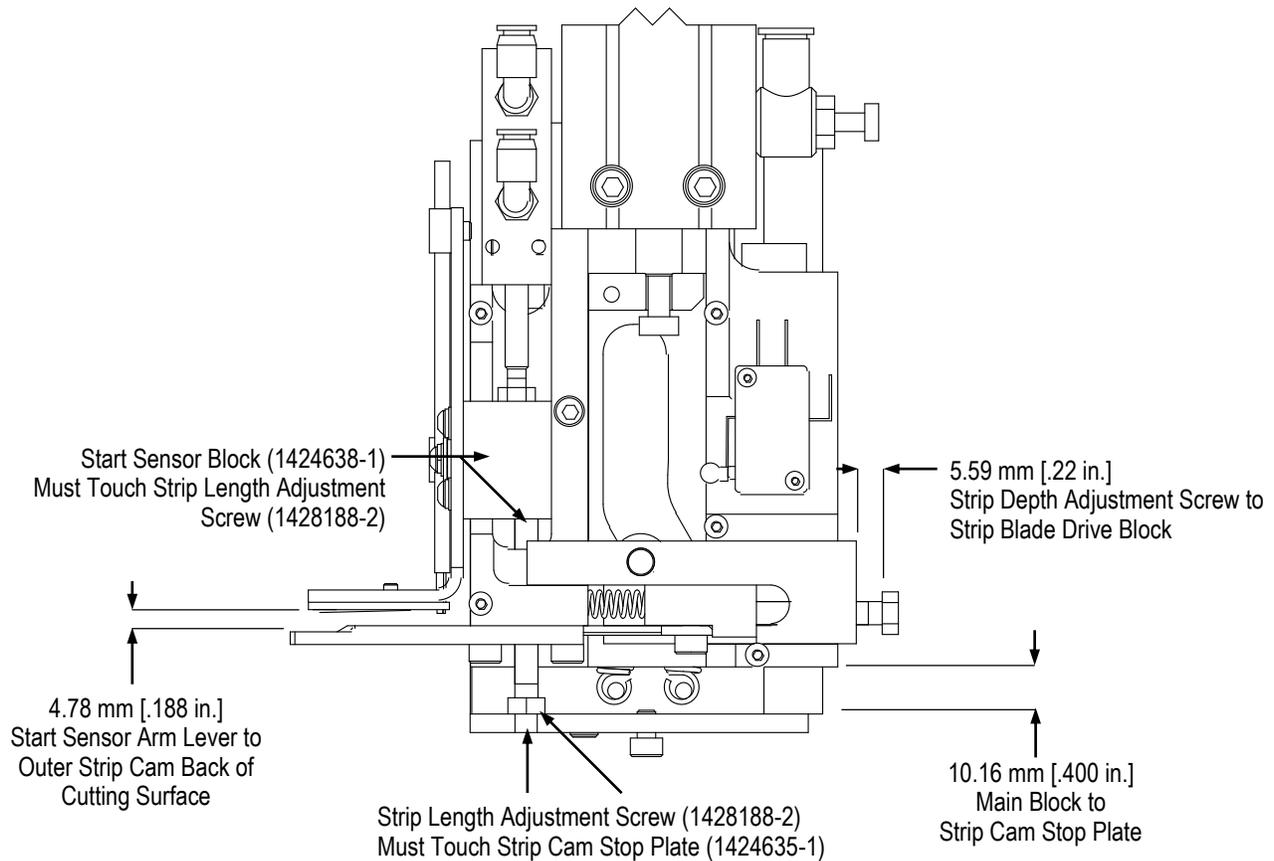

Figure 21
5. Turn the strip length screw *clockwise* until the main block is 10.16 mm [.400 in.] from the strip cam stop plate. See Figure 21.
6. Adjust the start sensor arm so that the lever is 4.78 mm [.188 in.] from the back of the cutting surface of the outer strip cam. See Figure 21.